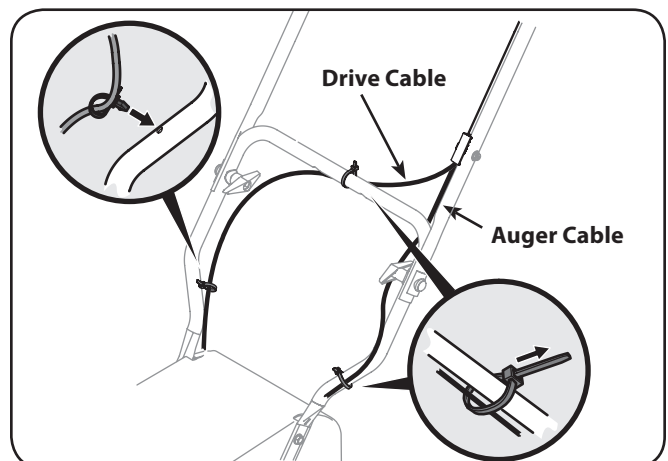

Figure 3-3
**NOTE:** The auger cable routes down the left lower handle and the drive cable is routed across the top of the lower handle and down the right side of the lower handle. See Figure 3-3.
7. Two cable ties have been used to loosely tie the control cables to the lower handle, including the cable tie you relocated in step 3. A push clip is also included on the lower drive cable. Position cable ties now, as in Figure 3-3, and tighten to secure cables to the lower handle. Trim off excess material of cable ties. If not already installed, push the clip on the drive cable into the hole in the handle provided as shown in the left inset below.